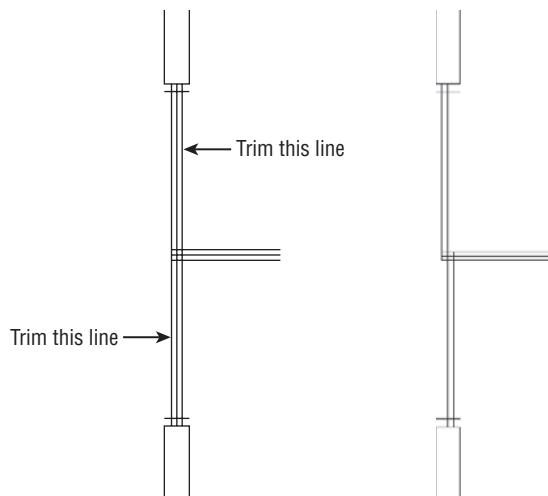

FIGURE 4.69 Picking the vertical lines to trim (left), and the result (right)
15. Trim the two outside vertical lines by selecting them, as shown on the left of Figure 4.69. The result is shown on the right.